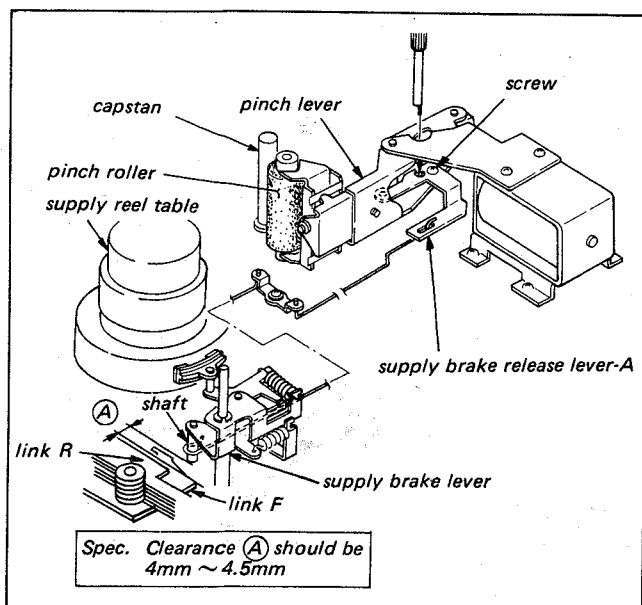

Fig. 4-20. Supply brake release adj.
2. Check to see that the clearance (A) in Fig. 4-20, between the S-Brake Lever shaft and Link (F) is 4 mm ~ 4.5 mm. If not, adjust it by moving the Supply Brake Release Lever-A with an 4 mm diameter eccentric screwdriver (Jig Ref. No. J-5)